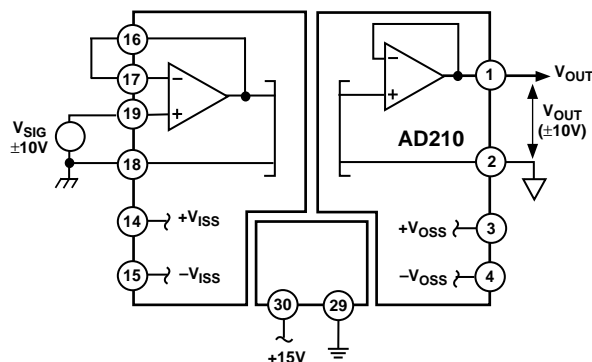

Figure 2. Basic Unity Gain Configuration
**Input Configurations:** The basic unity gain configuration for signals up to ±10 V is shown in Figure 2. Additional input amplifier variations are shown in the following figures. For smaller signal levels Figure 3 shows how to obtain gain while maintaining a very high input impedance.
The high input impedance of the circuits in Figures 2 and 3 can be maintained in an inverting application. Since the AD210 is a three-port isolator, either the input leads or the output leads may be interchanged to create the signal inversion.